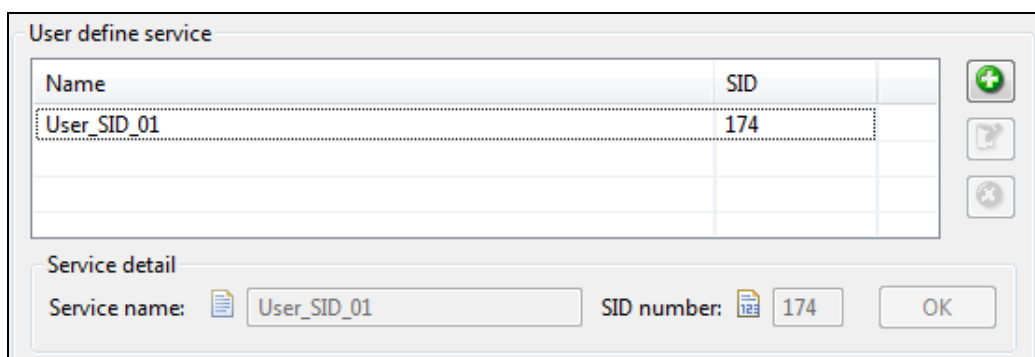

Figure 3-37 User Defined SID
13. Click **“OK”** button, the list of network is shown in Figure 3-37